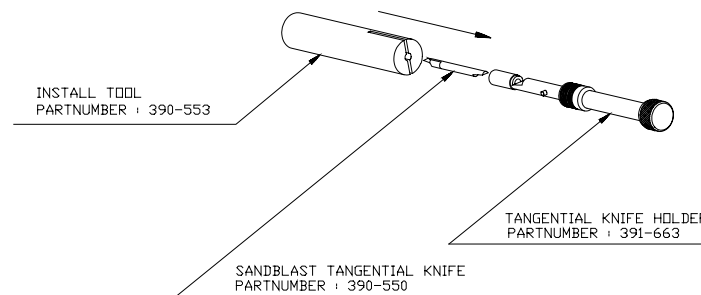

FIGURE 1-9:
1. As shown in Figure 1-9, insert the knife blade into the knife holder. Make sure the knife blade is secure inside the holder. The blade is secure when it cannot be removed manually from the knife holder. To remove the blade, push at the back of the blade with a screwdriver. The blade will pop out of its holder.